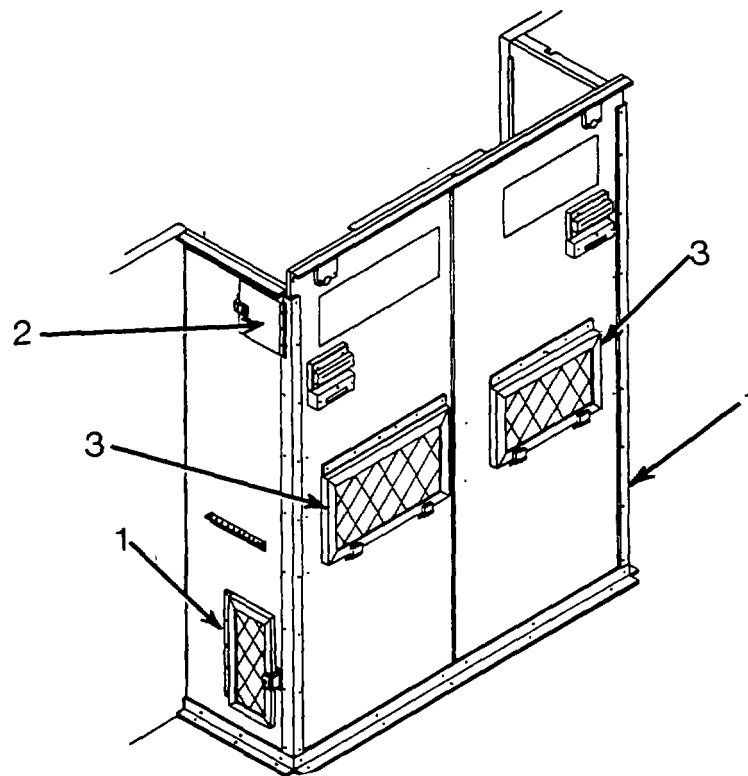

Figure 4-10. Air Conditioner Housing Assembly
4-17. AIR CONDITIONER HOUSING ASSEMBLY. Refer to figure 4-10 for location of air conditioning assembly components (sidewall vent assembly (1), heating element access plate (2), and front wall vent assembly (3)).